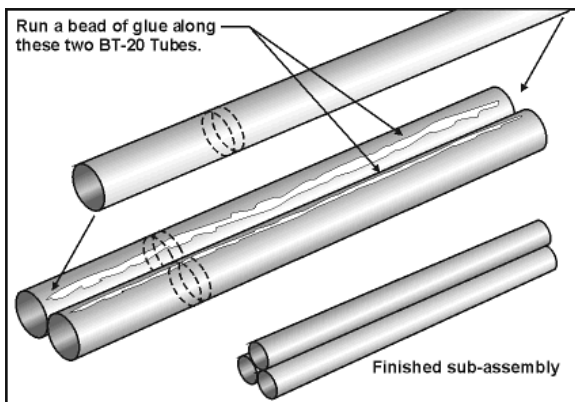

Figure 3
3. Attach the remaining BT-20 tube by placing a bead of glue on the two tubes from Step 2 as shown in **Figure 3**. As with Step 2, verify that the tube ends are flush and that the Engine Blocks are all at the same end. The end with the Engine Blocks is the "Rear" or "Bottom" of this assembly.